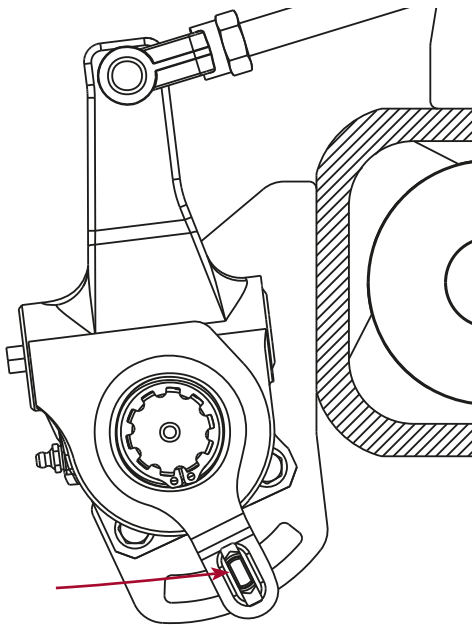

Figure 95: Anchor Stud Installation
10. Insert anchor stud into slack adjuster arm and then into anchor bracket. Refer to Figure 95.